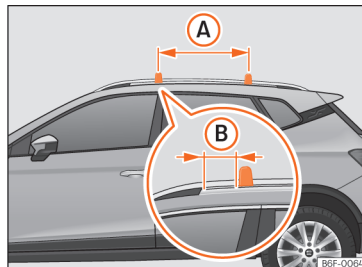

Fig. 130 Attachment points for the roof railings for the roof carrier system.
»» Fig. 130 (A) should be 75 cm and the distance between the cross bars and the brackets of the roof railings (B) should be 5 cm.